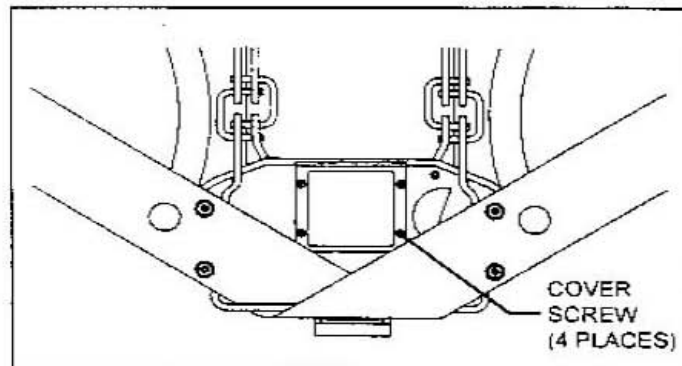

FIGURE 5
5. When replacing batteries on respirators equipped with Harness and Backplate, P/N 804173-01, place respirator in a clean non-hazardous area with the cylinder down exposing the battery cover on the back of the sensor module, as shown in Figure 5.